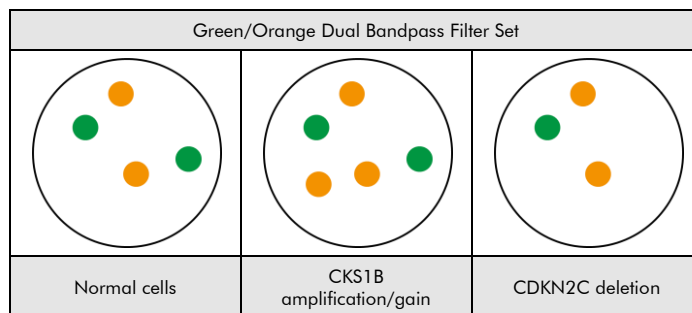

Fig. 2: Expected results in normal and aberrant nuclei
**Normal situation:** In interphases of normal cells or cells without an amplification/gain involving the CKS1B gene region or a deletion involving the CDKN2C gene region, two orange signals and two green signals appear (see Fig. 2).
**Aberrant situation:** In cells with an amplification/gain of the CKS1B gene region, an increased number of orange signals will be observed. In cells with deletion affecting the CDKN2C gene region, a reduced number of green signals will be observed. Deletions affecting only parts of the CDKN2C gene region might result in a normal signal pattern with green signals of reduced size. (see Fig. 2).